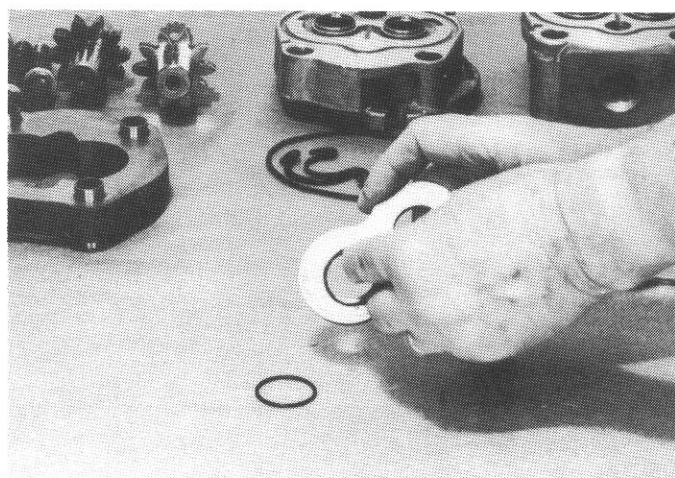

Fig. 12
12. To complete the disassembly, follow steps 7 and 8. (Fig. 12)